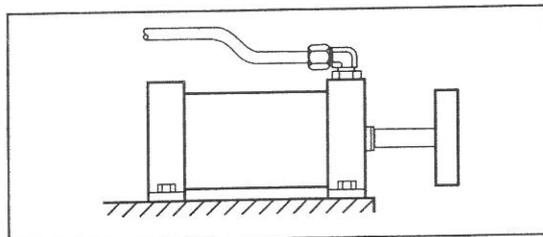

Fig. 17 - Bent Pipe Allowing for Motion Under Load
- **Allow for motion under load** - Even some apparently rigid systems do move under load. (See Figure 17.)